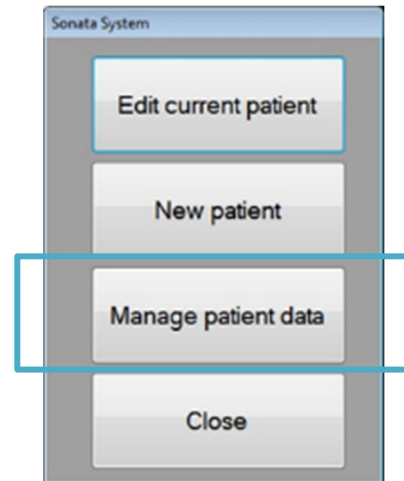

Figure 6-15. Manage Patient Data.
- Click the “Manage Procedure Data” button, see Figure 6-15.